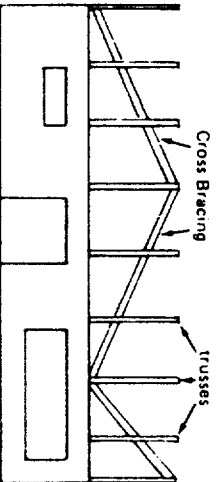

Fig. 4
3. **Cross Bracing:** As shown in figure 4, cross bracing is applied to one or more of the long diagonals within the attic space to prevent dominating. It is important to start the cross bracing at or near the peak of one gable end and continue across the building to the base of the opposite gable end. 1 x 4's or 2 x 4's should be used for cross bracing.